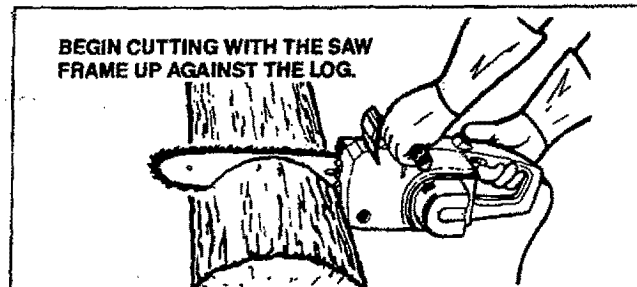

Figure 23
- d. **Begin cutting with the saw frame up against the log.** Figure 23.